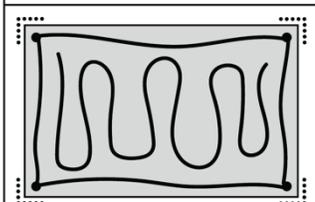

Fig. 2 BACK OF TILE
3. Remove and apply sealant to the back side of the tile as required. (Fig. 2)